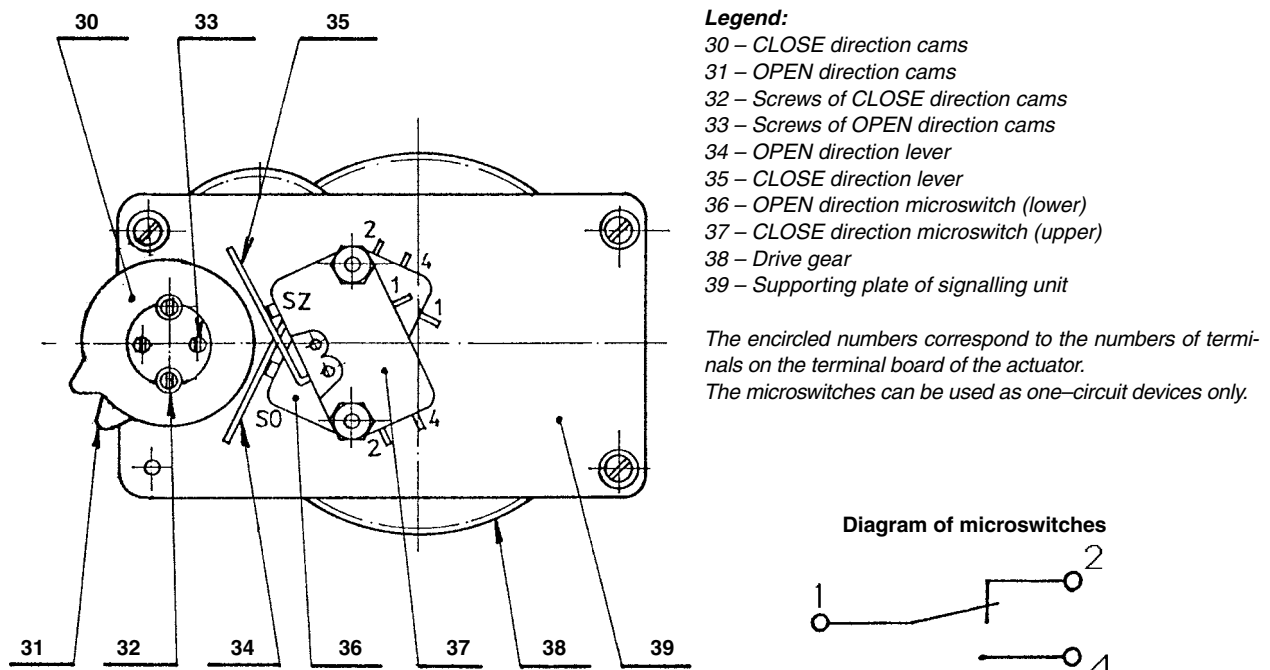
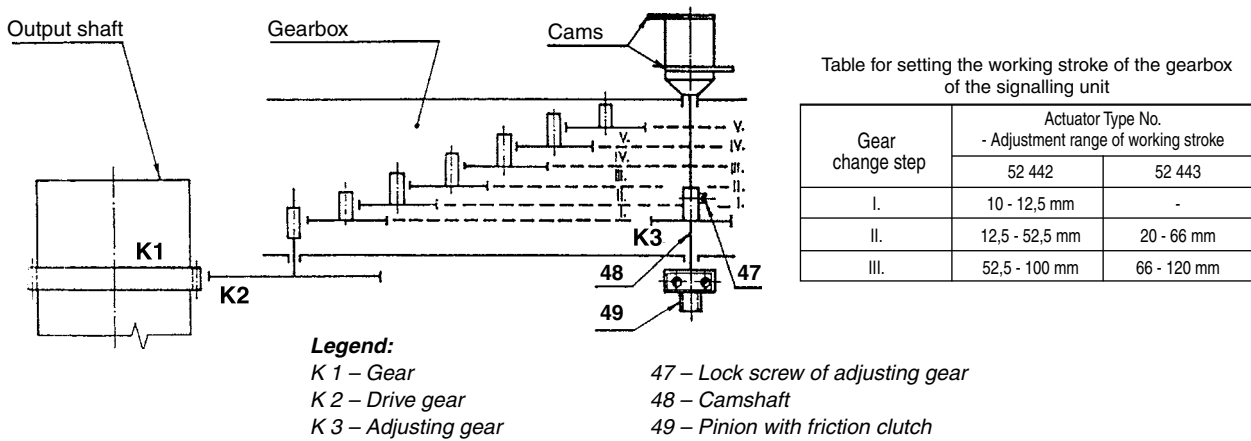

Fig. 4 - Signalling unit
Fig.5 - Kinematic diagram of gears
b) Signalling unit (Fig. 4)
Designed as an independent assembly unit, the signalling unit has been assembled on the support 39 under which there are gears arranged as shown in the kinematic diagram of the Fig. 5. This gearing has been assembled so that the adjusting wheel K3 can be moved to different levels designated I, II and III after loosening of the lock screw 47. In this way, the range of adjustment of the signalling switches and the position transmitter can be changed, depending on the working stroke of the actuator. Fig.5 is a table showing the ranges of adjustment for the individual positions of the adjusting wheel K3.
If the ranges of adjustment of the signalling switches and the transmitter are required to be changed the position of adjusting wheel K3 should be changed. For this purpose, the signalling unit should be partially withdrawn from the control box (*which is possible due to a sufficient length of lead-in wires of the microswitches*). This can be done after removal of the 3 screws 66 (Figs 2 and 2a) used for mounting the unit onto the base plate. After the signalling unit has been adjusted to the required range it should be brought back into its original position. Before retightening the screws 66, the correct meshing of gears K1 and K2 should be checked (see Fig. 5). Put on at the lower end of the camshaft 48 (Fig. 5) is the pinion 49 (Fig. 5) which is connected to the shaft 46 by an adjustable friction clutch. On this pinion, the motion required for driving the potentiometer position transmitter is sensed. The arrangement of cams and microswitches of the signalling unit is shown in Fig. 4. Shoulders of the cams 30 or 31 deflect the levers 34 and 35, which in turn control the microswitches 36 (SO) and 37 (SZ). When adjusting the signalling and position-limit switches and the position transmitter, the output shaft of the actuator should be moved to the position in which changing-over of the microswitches should take place or the required position of the position transmitter cursor should be reached. When adjusting the signalling switches, the following procedure should be used: First, loosen the screws 32 (*for the CLOSE signalling switch SZ*) or 33 (*for the OPEN signalling switch SO*), as shown in Fig. 4. Then, turn the cam 30 or 31 in the direction of the arrowhead till the microswitch closes. In this position, hold the cams and retighten the lock screws.